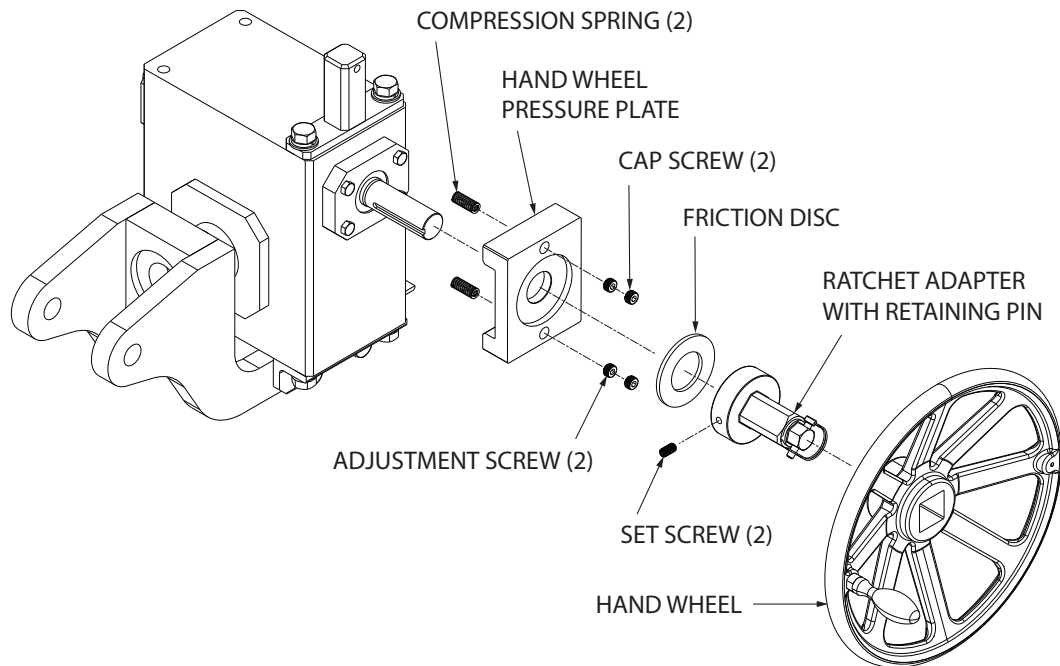

Figure 4.5-1
The inspection and maintenance of the roll operation friction disc clutch (Figure 4.5-1) should be made before each use. All four (4) safety pins (IPB Fig. 9 - Item 11) of the cradle should be installed to prevent cradle rotation. Install wood blocks at the free end of the jack screw tube brace to maintain the jack current position. Then free the jack screw nut assembly to travel by removing four (4) screws, four (4) lock washers (IPB Figure 1 - Items 33 and 34) and the two (2) pivot pins (IPB Fig. 1 - Item 32). Rotate the jack screw hand wheel one to two turns and note the amount of force required. The force required to overcome the friction clutch and turn the hand wheel should be approximately 10 to 15 lbs. (45 to 67 N). Inspection and adjustment of the friction clutch assembly is required if there is little or no resistance felt when the hand wheel is rotated.